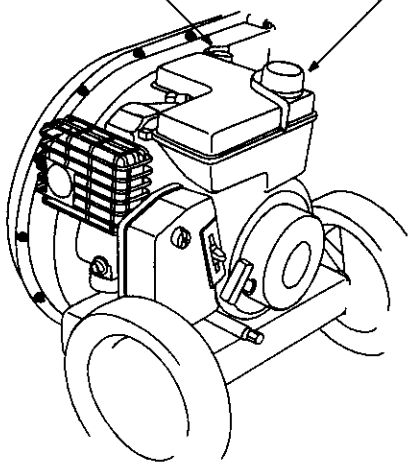

Figure 10
- Remove dipstick. See figure 10.
- Remove fuel cap. See figure 10.